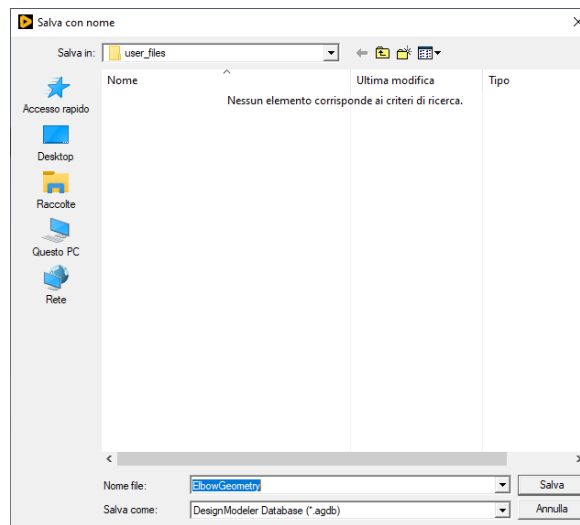

Figure 21: Saving the geometry.
- While not strictly necessary in our case, we save the geometry just completed with the name *ElbowGeometry*: the extension *.agdb*, Design Modeler DataBase files, will be assigned automatically, as shown in figure 21.